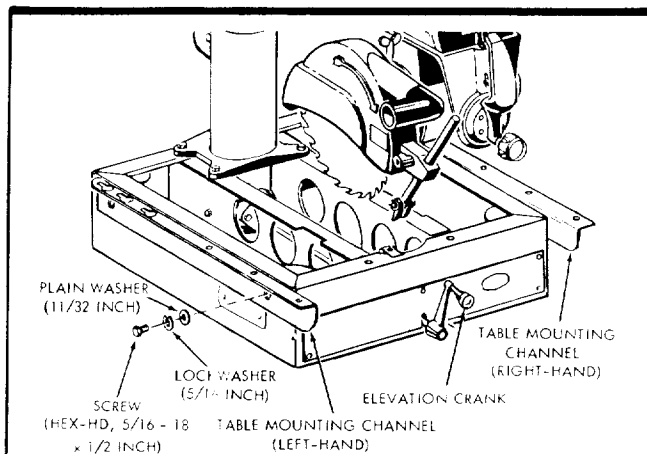

Figure 3
The saw should be placed on a suitable sturdy work bench and the base positioned so that the elevation crank is free to rotate. (See figure 3.) The base of the saw must be mounted flush to a flat surface on the work bench to prevent distortion of the saw base. The nuts, screws, and washers which attach the wooden shipping skids to the saw base may be used to secure the saw base to the work bench.
1. Loosen the two 5/16-18, hex-head mounting channel attaching screws at each side of saw base (figure 3) just enough to permit the mounting channels to "slip" against the surface of the base side member when tapped with a mallet.
- d. Swivel the motor to position the saw end of shaft pointing straight down and tighten the bevel lock knob. If the motor strikes some part of the saw, raise the radial arm by rotating the elevation crank (figure 3) on front of saw base.